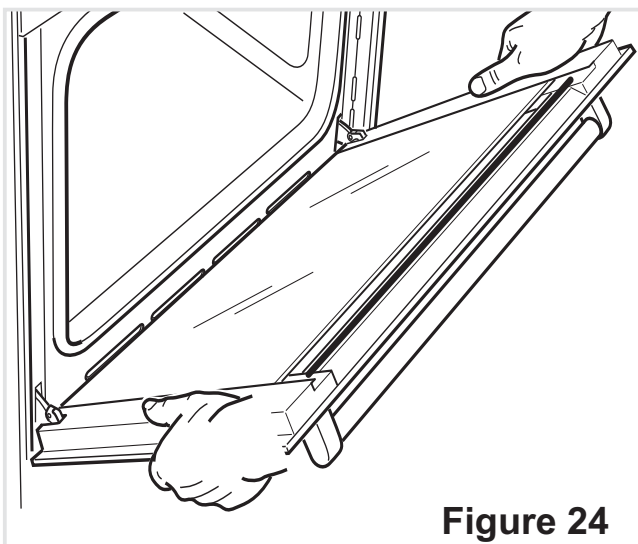

Figure 24
- Hold the door as shown in fig. 24.